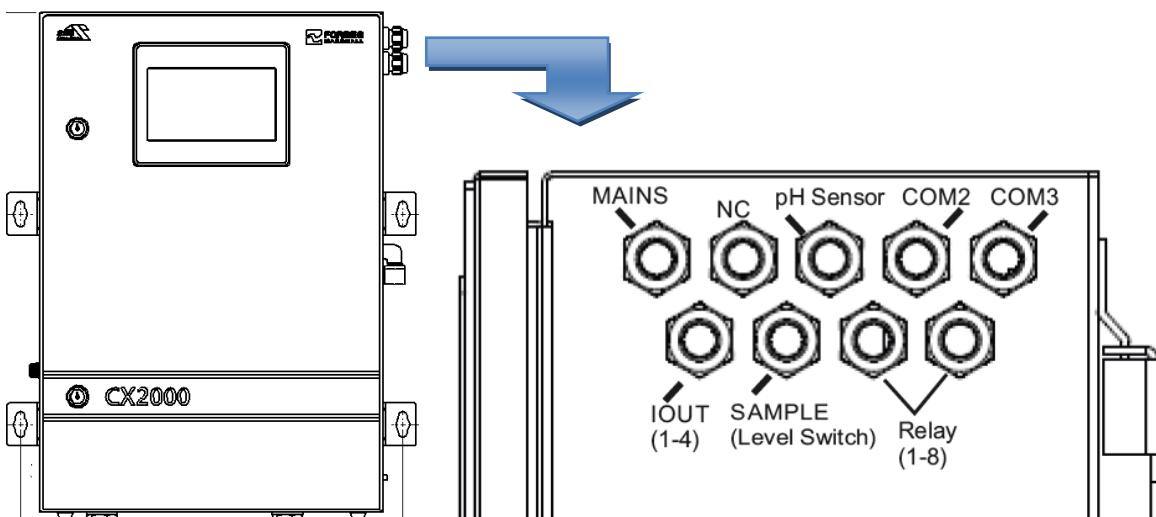

Fig. 5
- Refer (*Fig. 5*) Encloser Cable gland side view as below,